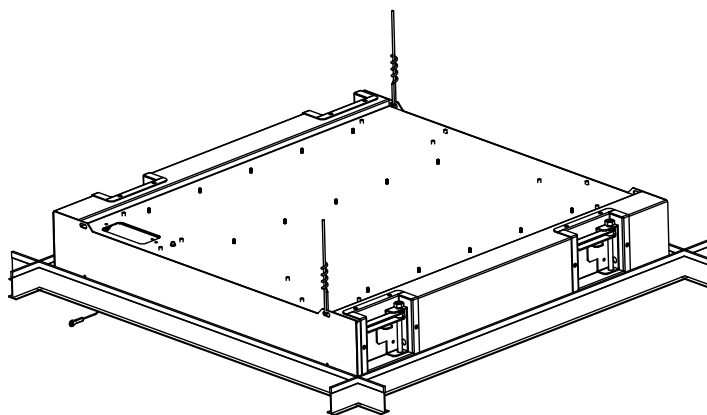

Figure 3
5. If securing fixture to the superstructure with hanger wire (by others) loop wire through holes in cross-corner flanges at ends of fixture. See Figure 3.